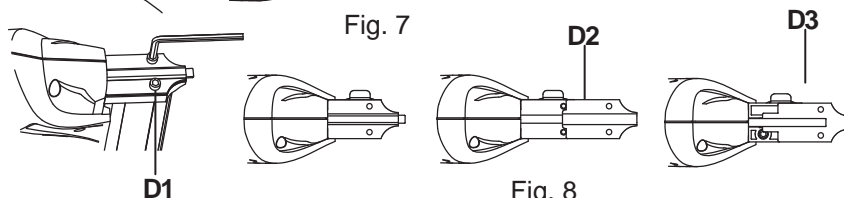

Fig. 8
- > Remove the firing pin retaining plate D3 (Fig. 8)